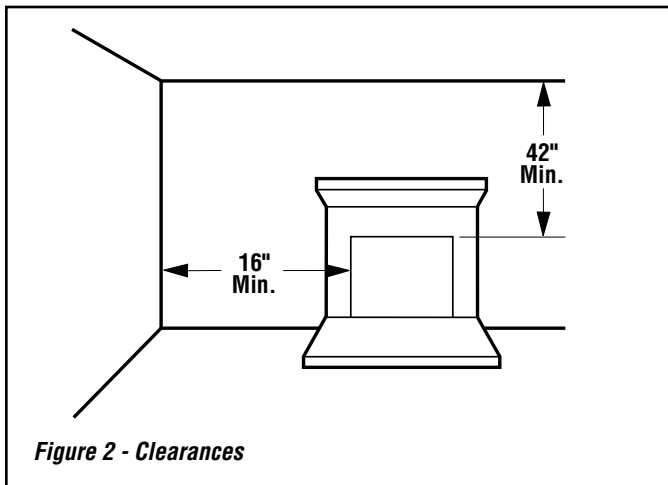

Figure 2 - Clearances
**Note:** Illustrations shown in this manual reflect "typical" installations with nominal dimensions and are for reference only. Actual installations may vary due to individual design preferences. However, always maintain minimum clearances to combustible materials and do not violate any specific installation requirements. Refer to **Figures 2 through 8** for clearances.
Ensure the minimum clearances shown in **Figures 2 through 8** are maintained. Left and right clearances are determined when facing the front of the appliance.
**Step 1. Sidewall Clearances:** The sides of the fireplace opening must be at least 16" from any combustible side wall (**Figure 2**).
**Step 2. Ceiling Clearance:** The ceiling must be at least 42" from the top of the appliance opening (*Figure 2*).